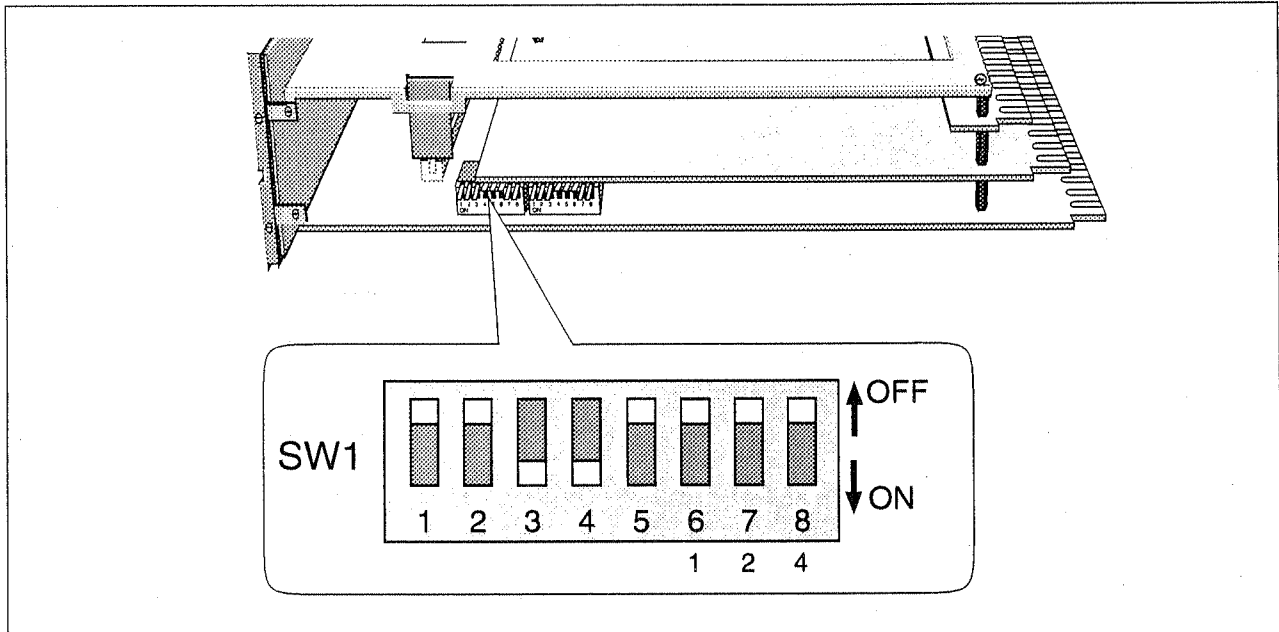

Figure 5-1 SW1 switch settings
- 1** Withdraw the T640 from its sleeve (taking the necessary anti-static precautions - see Chapter 2) and **set switches 6, 7 and 8 of switchbank 1 to OFF**. (Figure 5-1 reminds you of their location and how to set them.)